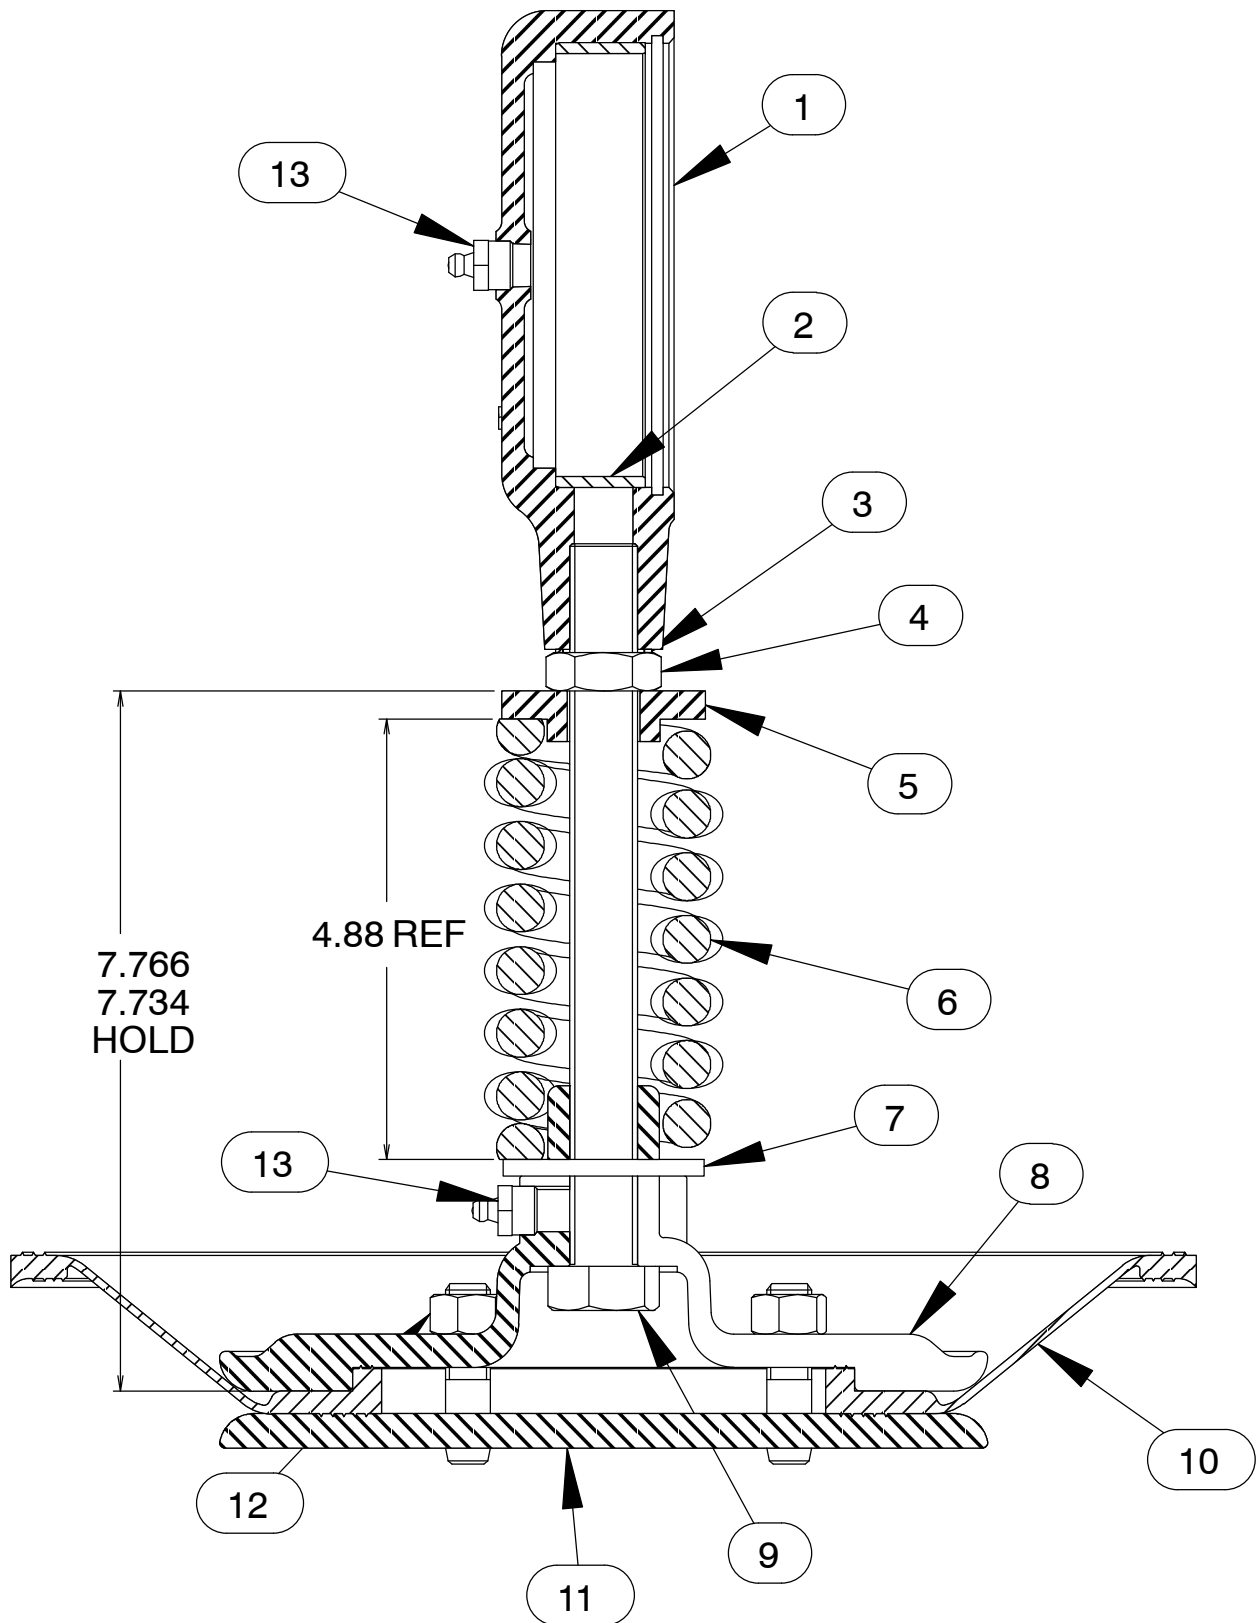

Figure 3. 5685 Plunger Rod Assembly
To remove the diaphragm (10, Figure 3), disengage the hardware (32, 33 and 34) and remove the diaphragm pot assembly (35). Inspect the diaphragm ring (36) for wear or damage. If replacement is required, the gearbox assembly (8) must be removed.
(Figure 3)